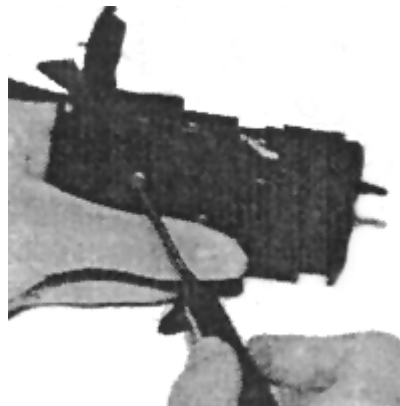

Figure 6
- Push out *hammer axle*, remove *hammer*, up and forward of the housing (Fig. 6)